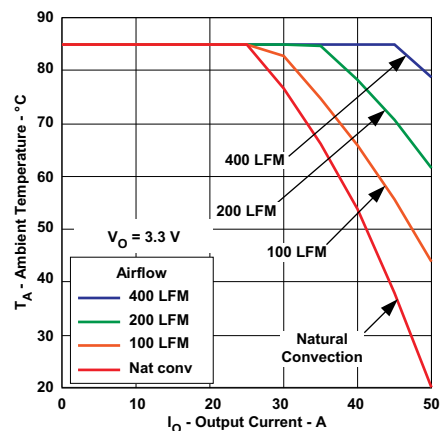
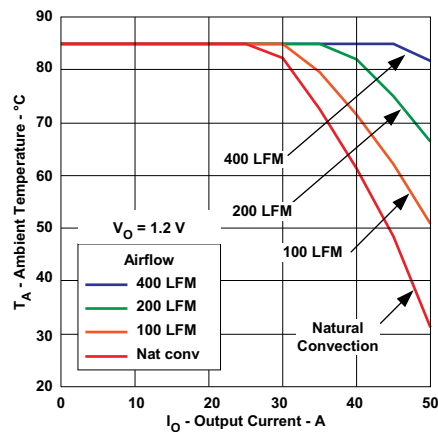

Figure 4. Ambient Temperature versus Output Current
Figure 5. Ambient Temperature versus Output Current
- (12) The temperature derating curves represent the conditions at which internal components are at or below the manufacturer's maximum operating temperatures. Derating limits apply to modules soldered directly to a 100 mm × 100 mm double-sided PCB with 2 oz. copper. Applies to Figure 4 and Figure 5.